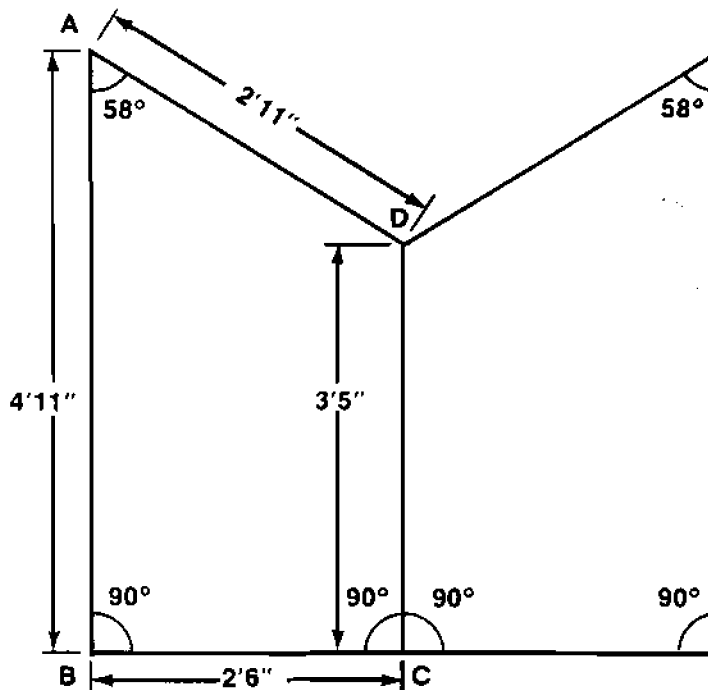

Figure 2. Insulation side sections
13. Cut two sections -- mirror images of one another -- to fit on either side of the drum as shown in Figure 2. Dimensions are: